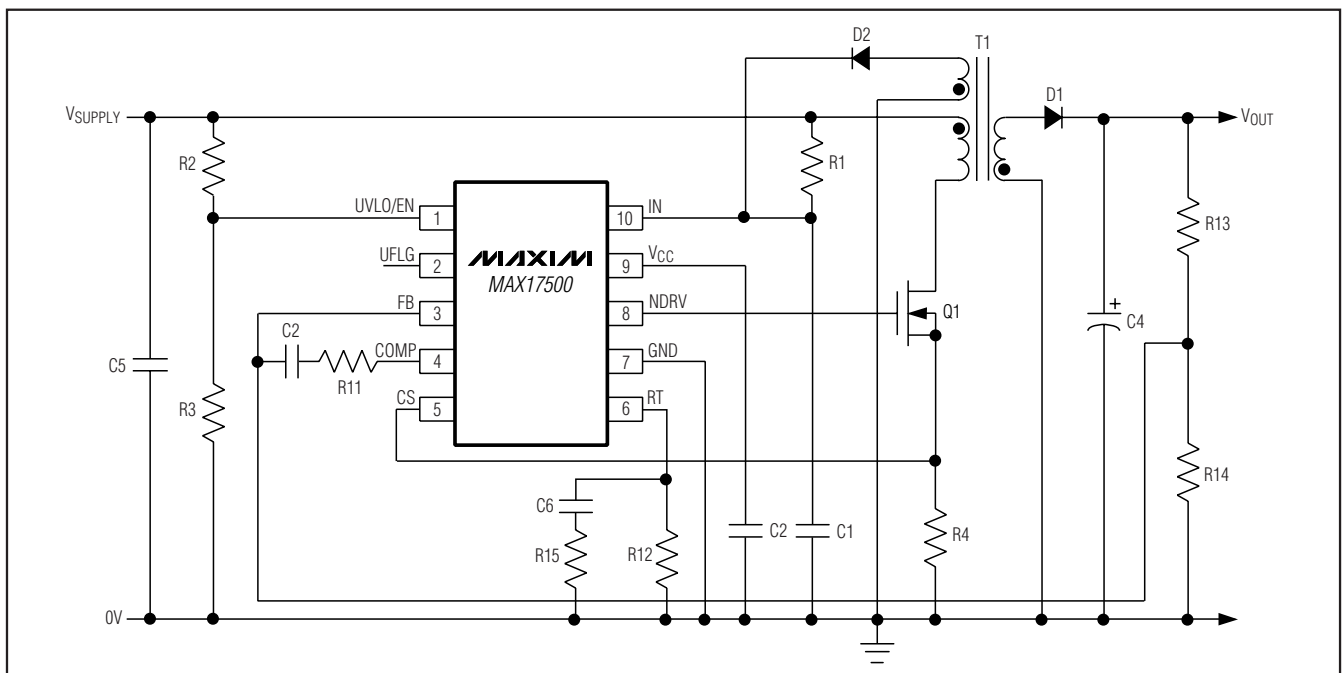

Figure 1. Nonisolated Power Supply with Programmable Input-Supply Start Voltage
**Note 2:** The MAX17500 is intended for use in universal input power supplies. The internal clamp circuit at IN is used to prevent the bootstrap capacitor (C1 in Figure 1) from charging to a voltage beyond the absolute maximum rating of the device when UVLO/EN is low (shutdown mode). Externally limit the maximum current to IN (hence to clamp) to 2mA maximum when UVLO/EN is low. Clamp currents higher than 2mA may result in a clamp voltage higher than 30V, thus exceeding the absolute maximum rating for IN. For the MAX17499, do not exceed the 24V maximum operating voltage of the device.
The MAX17500 is well suited for universal input (rectified 85V AC to 265V AC) or telecom (-36V DC to -72V DC) power supplies. The MAX17499 is well suited for low-input-voltage (9.5V DC to 24V DC) power supplies. The devices include an internal clamp at IN to prevent the input voltage from exceeding the absolute maximum rating (see Note 2 at the end of the *Electrical Characteristics* table). The input is clamped when the devices are started with a bleed resistor (R1 in Figure 1) from a high input voltage and the UVLO/EN input is low. The clamp can safely sink up to 2mA current.
Power supplies designed with the MAX17500 use a high-value startup resistor, R1, that charges a reservoir capacitor, C1 (see Figure 1). During this initial period, while the voltage is less than the internal bootstrap UVLO threshold, the device typically consumes only 50μA of quiescent current. This low startup current and the large bootstrap UVLO hysteresis help to minimize the power dissipation across R1 even at the high end of the universal AC input voltage (265V AC).
Use this UVLO/EN input to program the input-supply start voltage. For example, a reasonable start voltage for a 36V to 72V telecom range is usually 34V. Calculate the resistor-divider values, R2 and R3 (see Figure 1) by using the following formulas:
point, the internal regulator begins charging C2 (see Figure 1). Only  $50\mu A$  of the current supplied through R1 is used by the MAX17500; the remaining input current charges C1 and C2. The charging of C2 stops when the  $V_{CC}$  voltage reaches approximately 9.5V, while the voltage across C1 continues rising until it reaches the wake-up level of 21.6V. Once  $V_{IN}$  exceeds the bootstrap UVLO threshold, NDRV begins switching the MOSFET and transfers energy to the secondary and tertiary outputs. If the voltage on the tertiary output builds to higher than 9.74V (the bootstrap UVLO lower threshold), then startup has been accomplished and sustained operation commences. If  $V_{IN}$  drops below 9.74V before startup is complete, the device goes back to low-current UVLO. In this case, increase the value of C1 to store enough energy to allow for the voltage at the tertiary winding to build up.
The MAX17499A/MAX17500A and MAX17499B/MAX17500B have programmable output switching frequencies from 25kHz to 625kHz and 12.5kHz to 625kHz, respectively. Use the following formulas to determine the appropriate value of resistor  $R_{12}$  (see Figure 1) needed to generate the desired output switching frequency ( $f_{sw}$ ) at the NDRV output:
where  $R_{12}$  is the resistor connected from  $R_T$  to GND (see Figure 1).
Connect an RC network in parallel with  $R_{12}$  as shown in Figure 1. The RC network should consist of a 100nF capacitor,  $C_6$ , (for stability) in series with resistor  $R_{15}$ , which serves to further minimize jitter. Use the following formula to determine the value of  $R_{15}$ :
The devices include an internal error amplifier to regulate the output voltage in the case of a nonisolated power supply (see Figure 1). For the circuit in Figure 1, calculate the output voltage using the following equation:
The current-sense resistor ( $R_4$  in Figure 1), connected between the source of the MOSFET and ground, sets the current limit. The current-limit comparator has a voltage trip level ( $V_{CS}$ ) of 1V. Use the following equation to calculate the value of  $R_4$ :
The bypass capacitor at  $I_N$ ,  $C_1$ , supplies current immediately after the MAX17500 wakes up (see Figure 1). The size of  $C_1$  and the connection configuration of the tertiary winding determine the number of cycles available for startup. Large values of  $C_1$  increase the start-up time but also supply gate charge for more cycles during initial startup. If the value of  $C_1$  is too small,  $V_{IN}$  drops below 9.74V because NDRV does not have enough time to switch and build up sufficient voltage across the tertiary output, which powers the device. The device goes back into UVLO and does not start. Use a low-leakage capacitor for  $C_1$  and  $C_2$ .
The above startup method is applicable to a circuit similar to the one shown in Figure 1. In this circuit, the tertiary winding has the same phase as the output windings. Thus, the voltage on the tertiary winding at any given time is proportional to the output voltage and goes through the same soft-start period as the output voltage. The minimum discharge time of C1 from 21.6V to 9.74V must be greater than the soft-start time of 5.6ms.